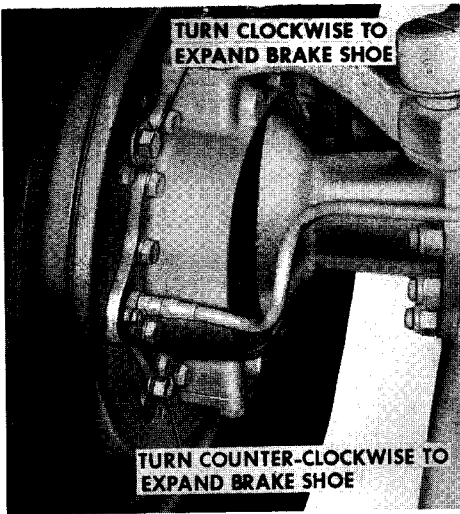

Figure 74
2. Expand brake shoes on each rear wheel, as shown in Figure 74, until a heavy drag is felt when rotating the wheels.